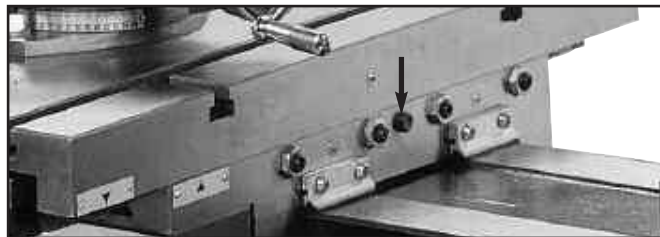

Figure 4.10 Granite Carriage Lock Y-Axis
J. Carriage Lock (Y-Axis) - is an M8 screw. Turning the screw clockwise will prohibit movement of the carriage along the Y-Axis. (Figure 4.10)